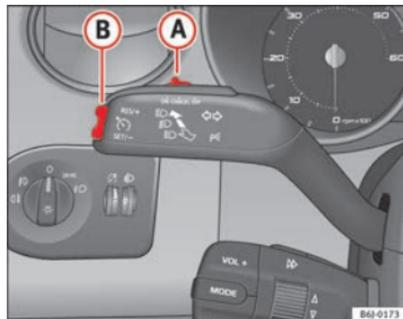

Fig. 112 Turn signal and main beam headlight lever: switch and rocker switch for the cruise control
- Move the control ⇒ fig. 112 (A) to the left to **ON**.